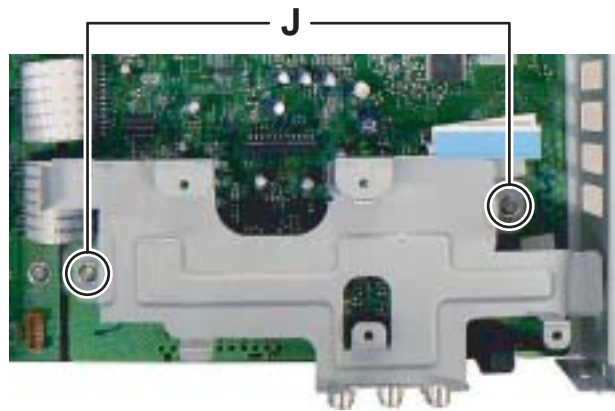

Fig.13
3.1.7 Removing the Main board (See Fig.13, 14)
- (1) Remove the two screws **J** attaching the bracket. (See Fig.13)